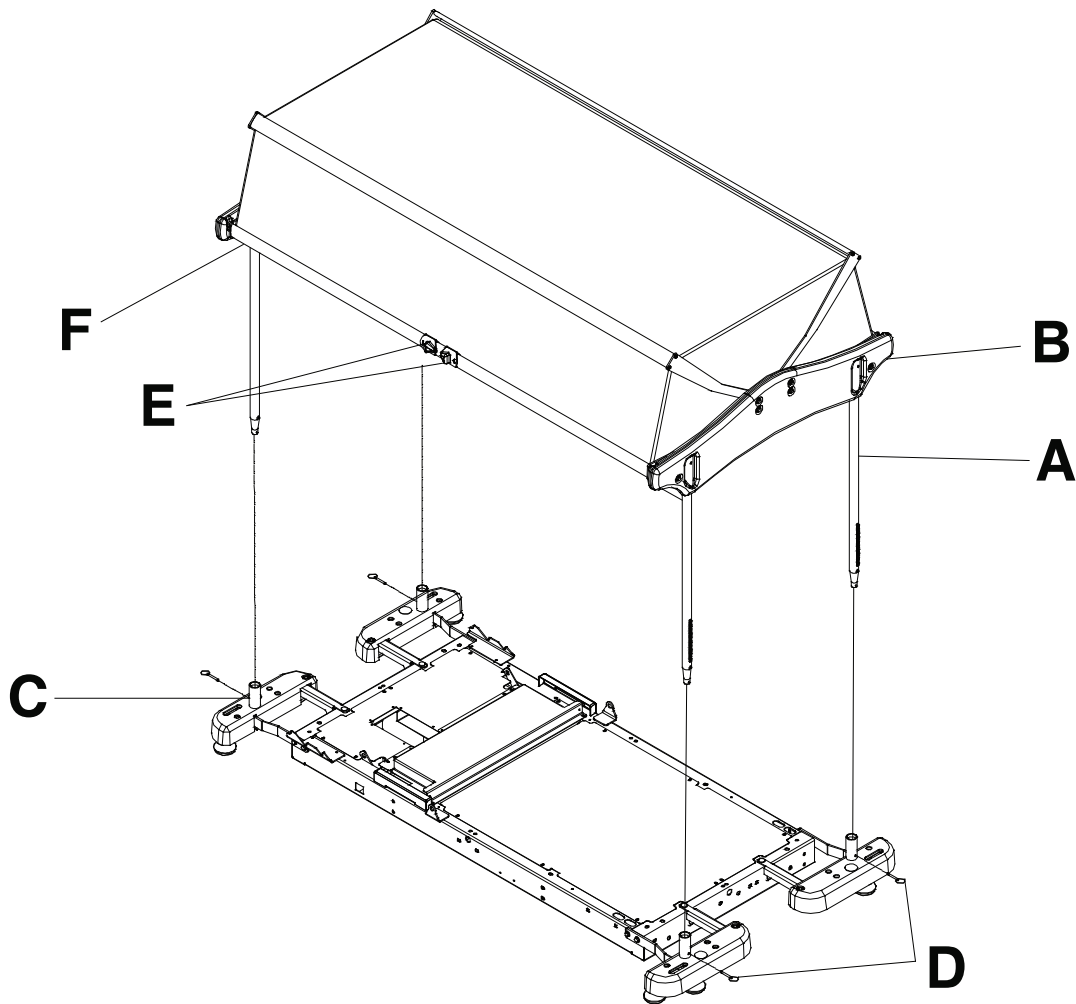

Figure 16 – Retracting protective top
1. Press the lock pin located on the top section of each post (A) and insert the post into the slot of the plastic structure (B) (Figure 16). Repeat for the other posts.
2. Install the four posts in the accessory bracket sockets (C) (Figure 16).
3. Using a 9/16 in. wrench, lock the posts in the accessory bracket sockets with the four hitch pins (D) (Figure 16).
1. To open the protective top, squeeze the two release knobs (E) and lift the lower rail (F) to the desired position (Figure 16).
2. To close the protective top, grasp the lower rail (F) and lower it until it locks into position (Figure 16).